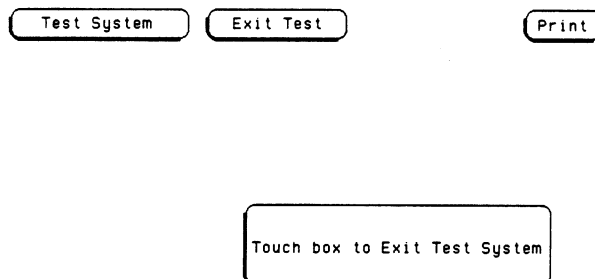

Figure 6-10. Exit Test System
- l. Touch the box to **Exit Test System**. See figure 6-10.